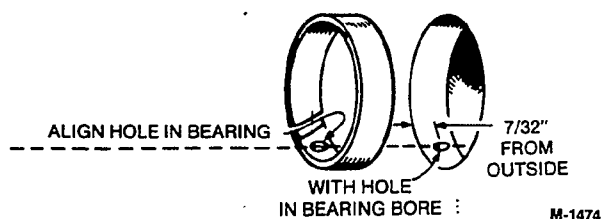

FIGURE 9-31. CAMSHAFT BEARING
2. Position the front bearing so that the oil hole in the bearing is aligned with the oil hole (see Figure 9-31) in the block.